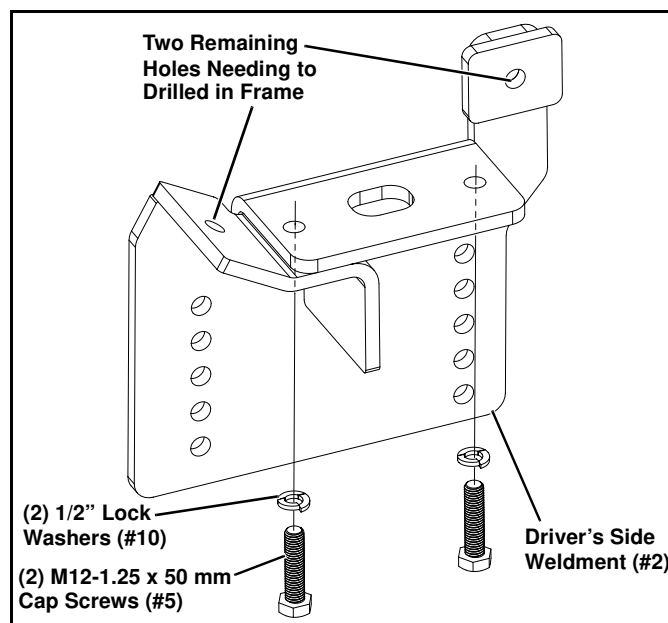

Figure 1
2. Install Driver Side Weldment (#2) by aligning the two holes in item 2 with the tow hook holes in the vehicle frame. Secure using (2) M12-1.25 x 50 mm Cap Screws (#5) and (2) 1/2" Lock Washers (#10) (See Figure 1).
3. The remaining two holes against the frame need to be drilled. One in the front and one in the rear of the Driver Side Mount Weldment (#2) (See Figure 1). With item 2 against the bottom of the frame, use these holes as a template. Center punch the location, drill a 1/4" pilot, then drill to 17/32".